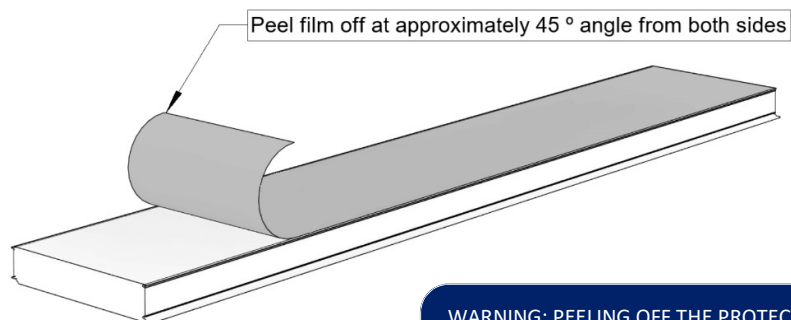

Fig. 6.1
- 6.3 Loosen film along male edge and peel it off and down at approximately 45° angle from both sides of panels (see Fig. 6.1).